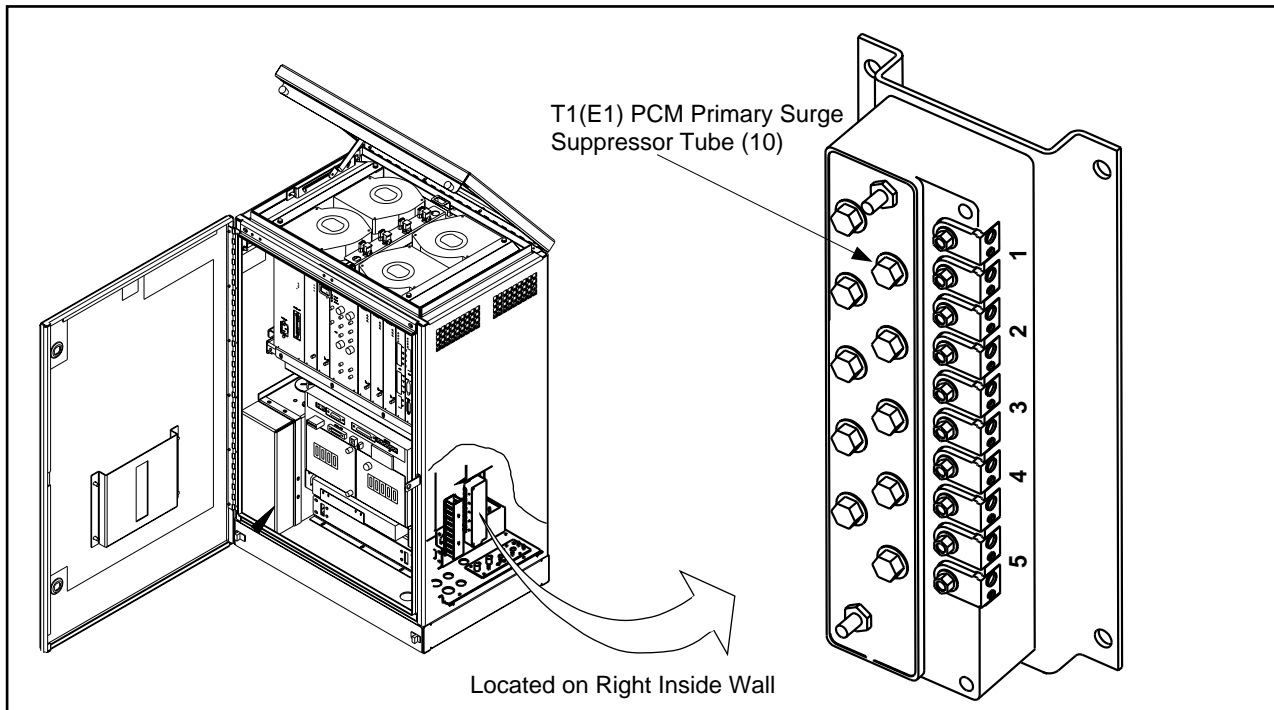

Figure 5-29. T1(E1) Primary Surge Suppressor
3. Locate the PCM Primary Surge Suppressor on the right inside wall of cabinet. See Figure 5-29 on page 5-55.